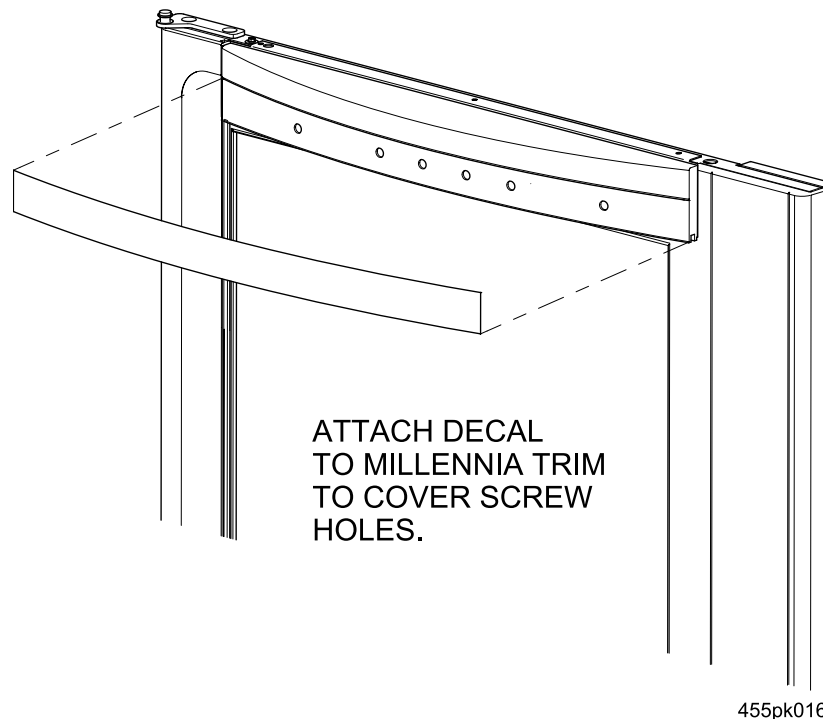

Figure 2
9. Place the decal part #4552399 over the screw holes on the Millennia trim piece (See figure 2).